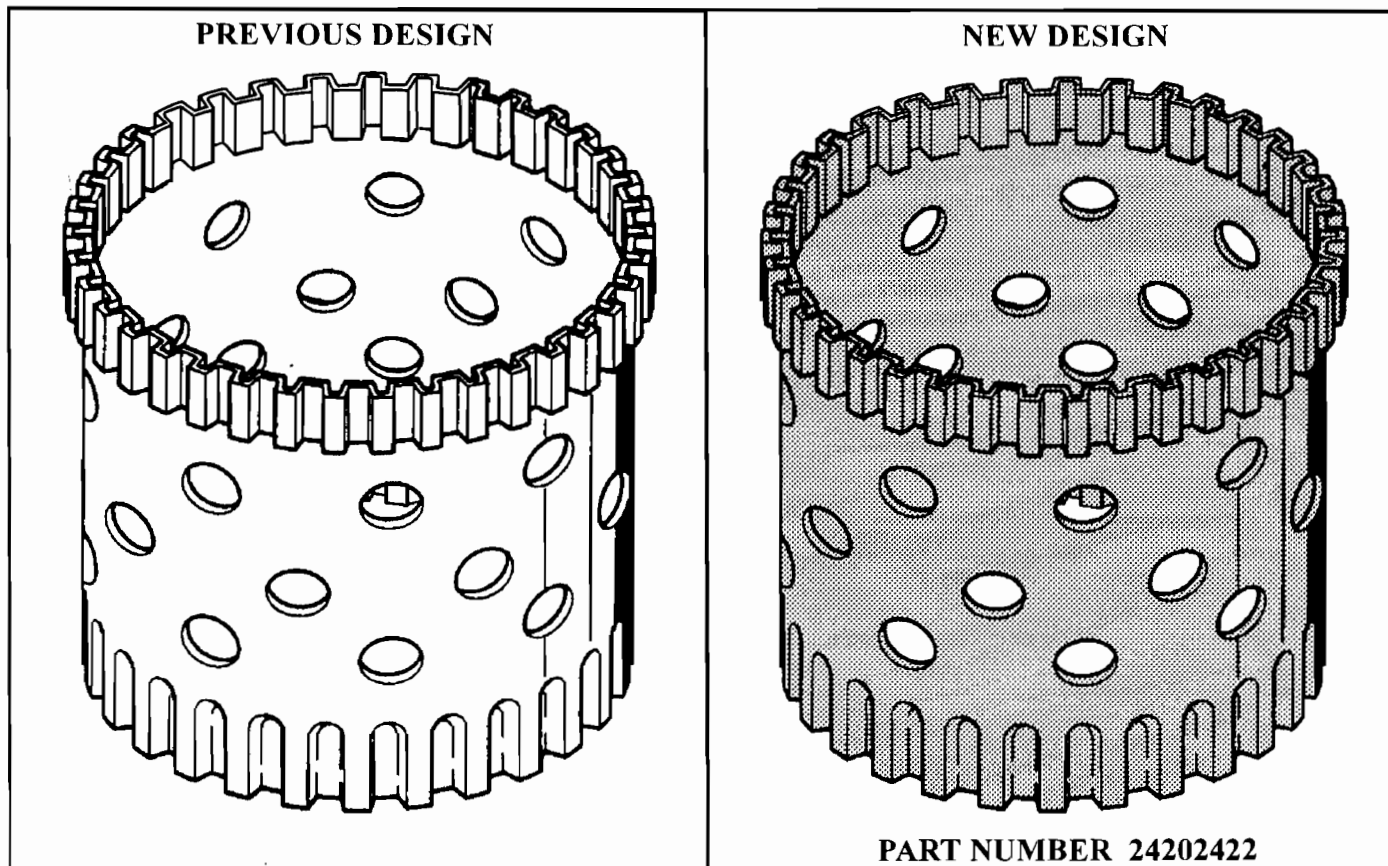

Figure 1
CHANGE: Beginning at the start of Production for 1997 models, all THM 4T60-E transaxles were built with a new design Reverse Reaction Drum, as shown in Figure 1.
- (1) REVERSE REACTION DRUM - New design has been through a hardening process and can be identified by its blackened color, as shown in Figure 1.
For 1991 Model vehicles, refer to Figure 1.